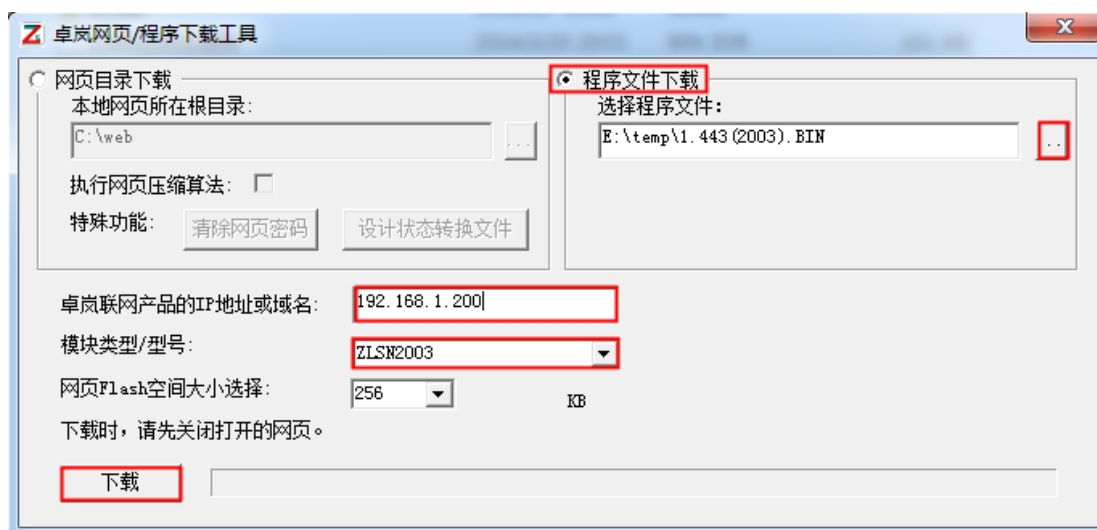

Figure 16 ZLSN2003 Firmware Upgrade Method
- 7) After the firmware upgrade, the configuration page within the module also needs to be updated, or can no longer through the Web configuration. Download the Web method is: as shown in Figure 16, modify the "program file" download mode to "Web directory download". And select the root directory of the local web page as the directory of the webpage file for the